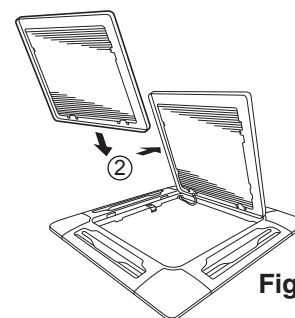
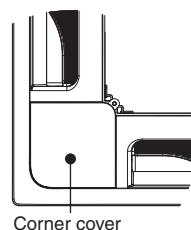

Fig. 3-41
Fig. 3-42
- b) With the air-intake grille opened, remove the grille hinge from the ceiling panel by sliding it in the direction shown by the arrow ②. (Fig. 3-41)
- (2) Removing the corner cover
- a) Remove the screws on the corner and slide the latches in the direction of the arrow ① to disconnect the hinges (3 locations). (Fig. 3-42)